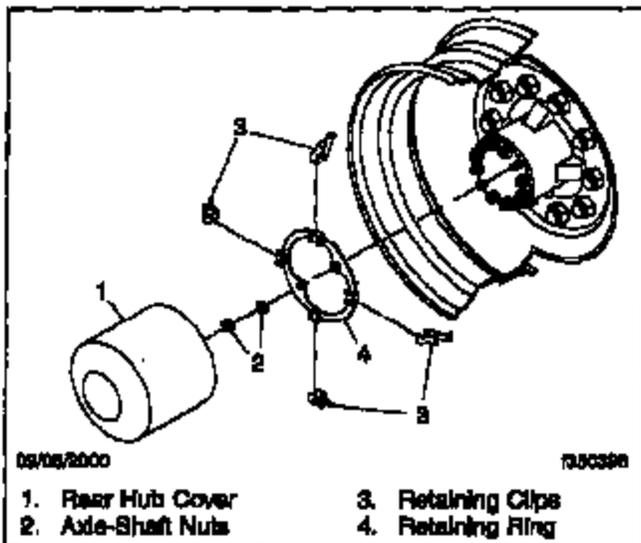

Fig. 1, Existing Rear Hub Cover Removal
3. On one side of the vehicle, remove the rear-axle hub cover by twisting slightly and pulling off the retaining clips. See Fig. 1.